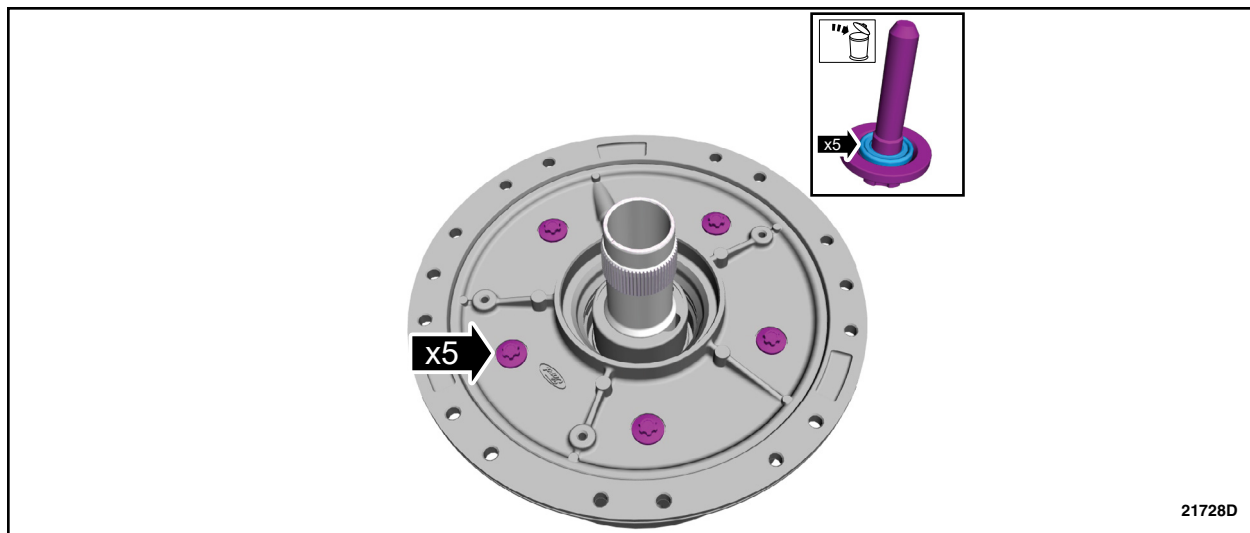

FIGURE 6
10. Remove the front support cover bolts, and discard the front support cover bolt washers. See Figure 6.